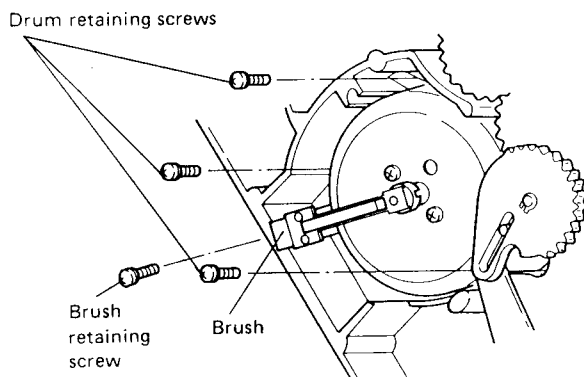

Fig. 3-6
- 5) Remove the three drum retaining screws as shown in Fig. 3-6.
- 8) Remove the brush retaining screw and brush as shown in Fig. 3-6.
- 1) Fasten the brush with the brush retaining screw to the new Drum assembly as shown in Fig. 3-6.
- 4) Secure with the three drum retaining screws previously removed, as shown in Fig. 3-6.